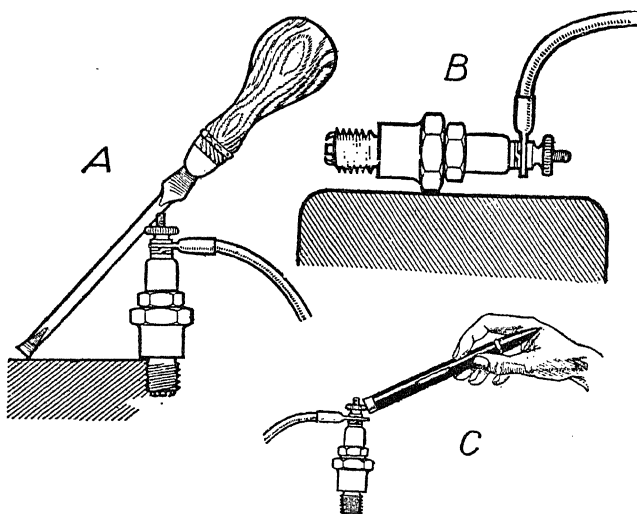

Fig. 1. A—Testing Spark Plug with Screwdriver
4. If gas is supplied to the engine and the ammeter hand is deflected, then inspect to see whether there is a high-tension spark delivered to the plugs. A screwdriver may be used to short a plug to the cylinder block or head. Fig. 1.